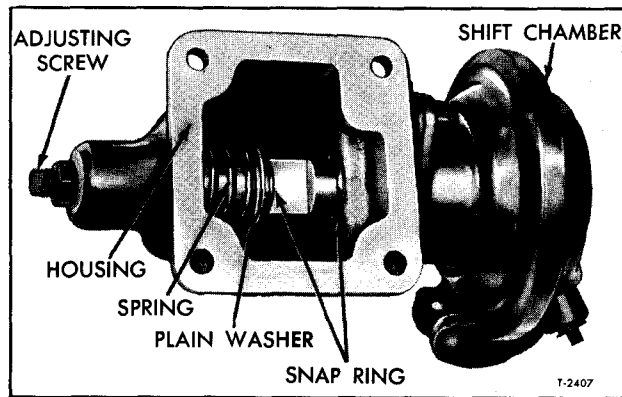

Figure 18—Inter-Axle Air Shift Chamber and Housing (Rockwell)
3. Using pliers, remove two snap rings from shift chamber shaft (fig. 18).